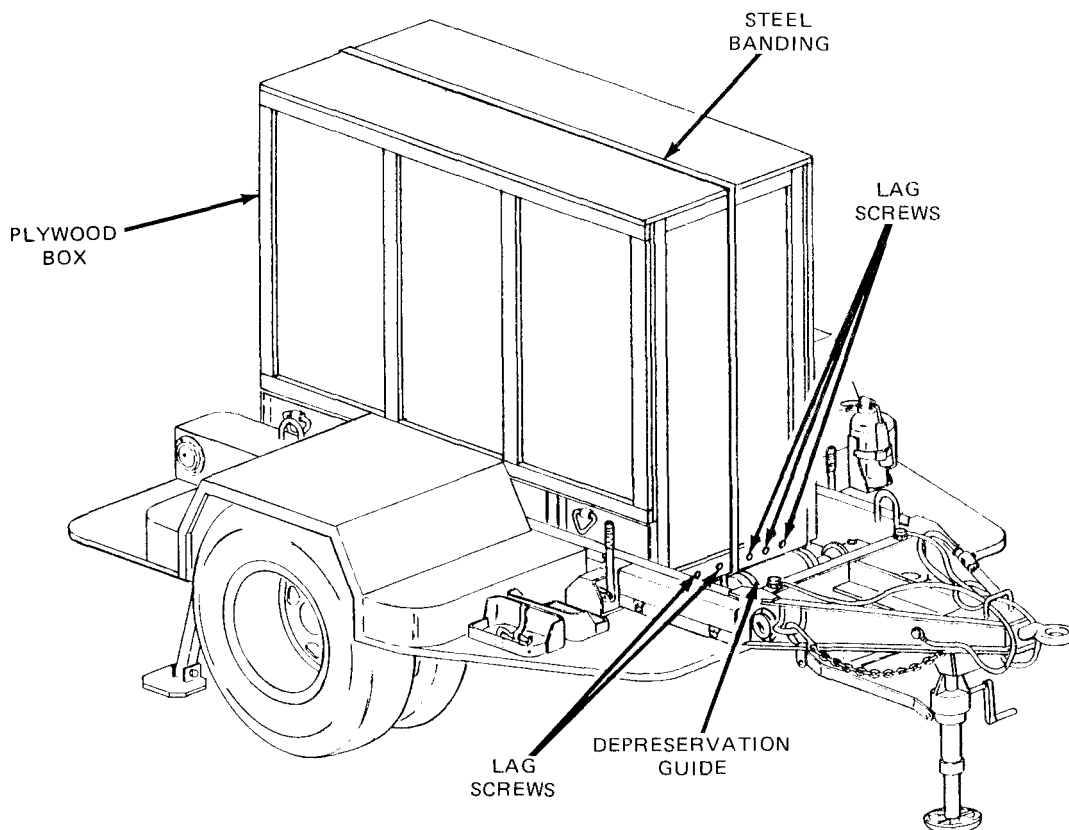

Figure 4-1. Power Unit Packed for Shipment.
a. Unpacking Power Unit. (See figures 4-1 and 4-2.) The generator set is packed in place on the trailer frame. Before beginning the unpacking procedure, locate, remove, and save the waterproof envelopes marked Depreservation Guide.